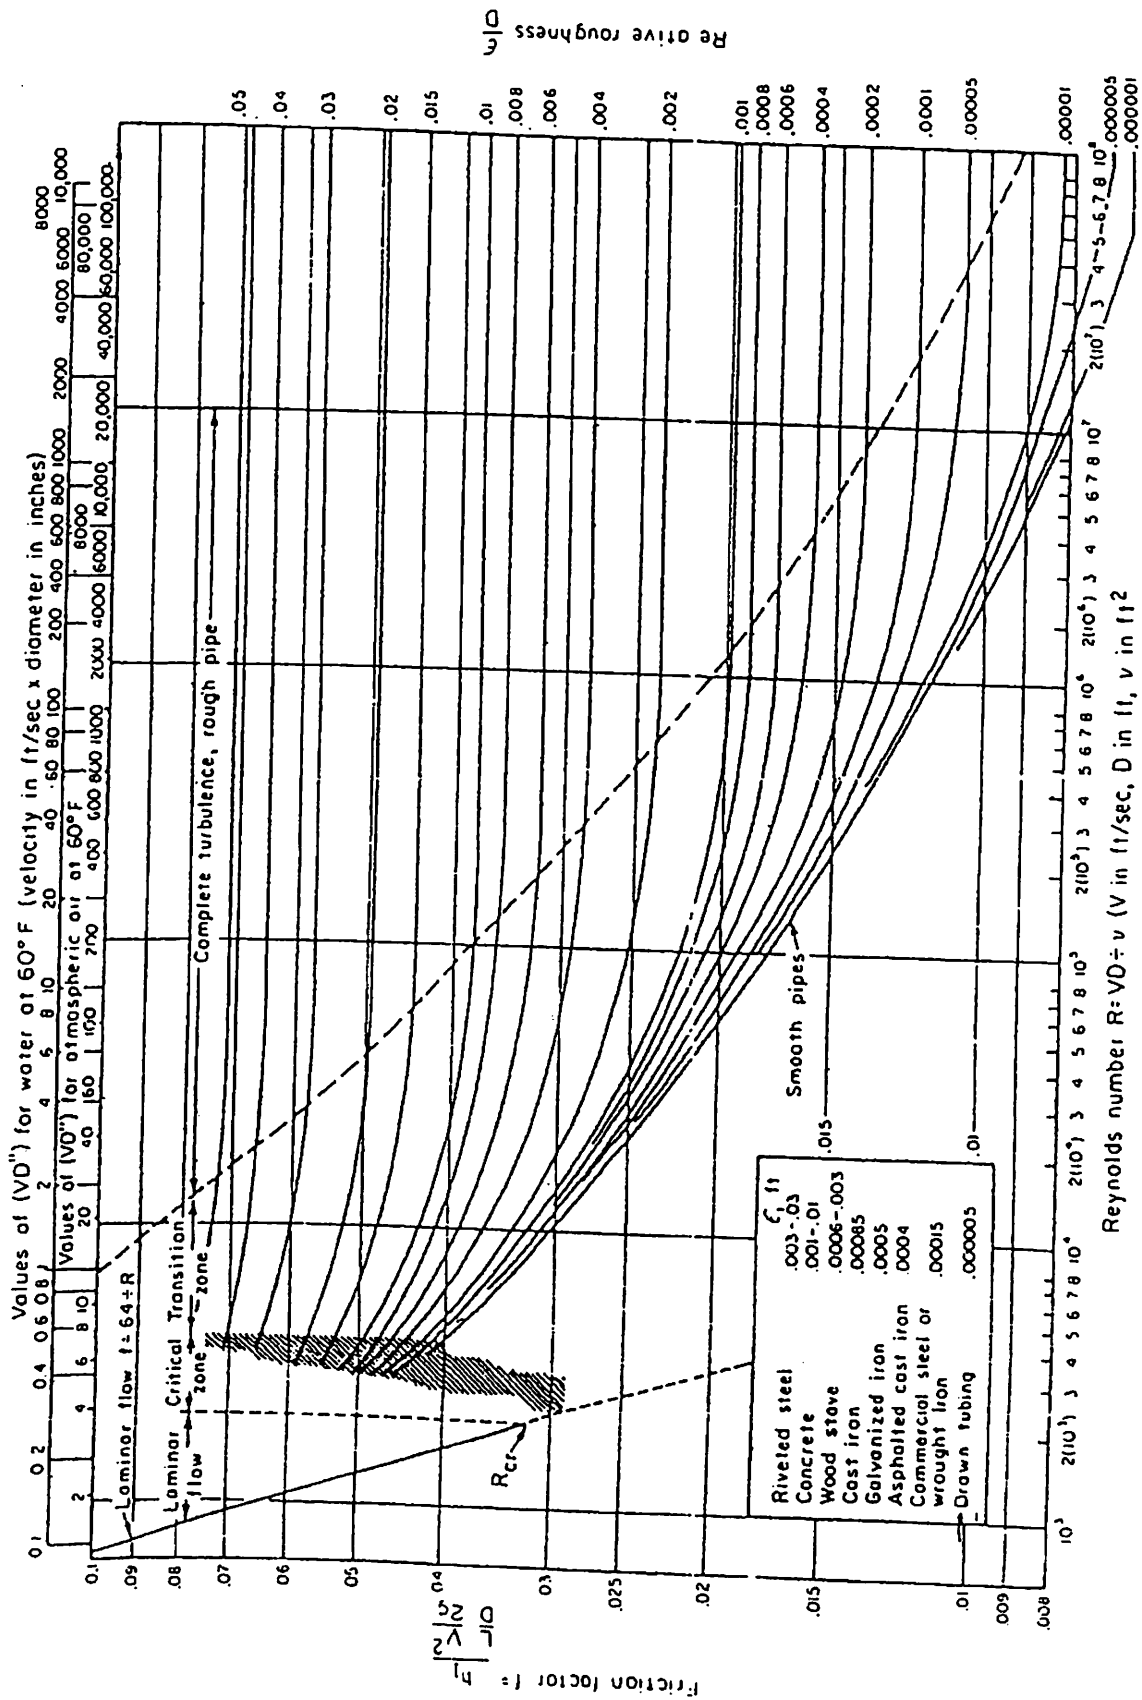

Figure 3: Friction factor estimation chart
- (i). Estimate the friction factor of the flow using Moody's chart given by figure 3.